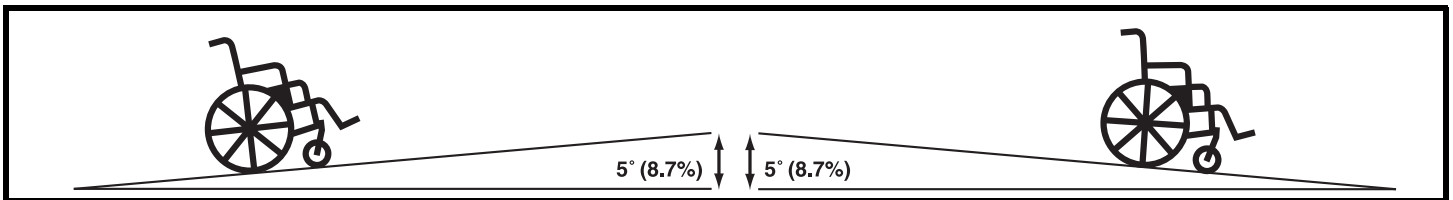

Figure 1. Recommended Maximum Safe Slope (Ascending and Descending)
**WARNING! Even though your wheelchair is capable of climbing slopes greater than those illustrated in figure 1, do not, under any circumstances, exceed the incline guidelines or any other specifications presented in this manual. Doing so could cause instability in your wheelchair.**
Pride recommends that the maximum slope of an incline you attempt to safely ascend or descend on your wheelchair does not exceed 5° (8.7%). See figure 1.